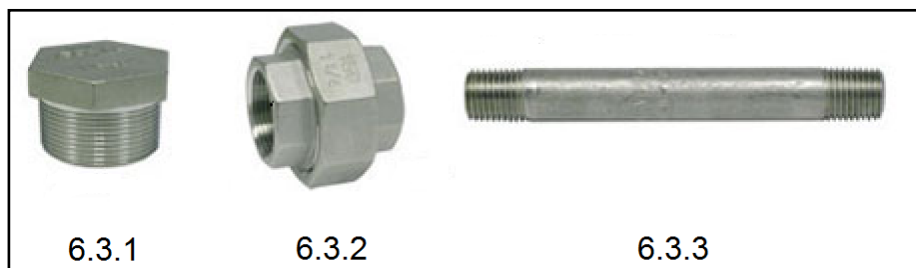

FIGURE 2
6.3 Name the THREE types of pipe fittings shown in FIGURE 2 below. Write only the answer next to the question number (6.3.1–6.3.3) in the ANSWER BOOK.